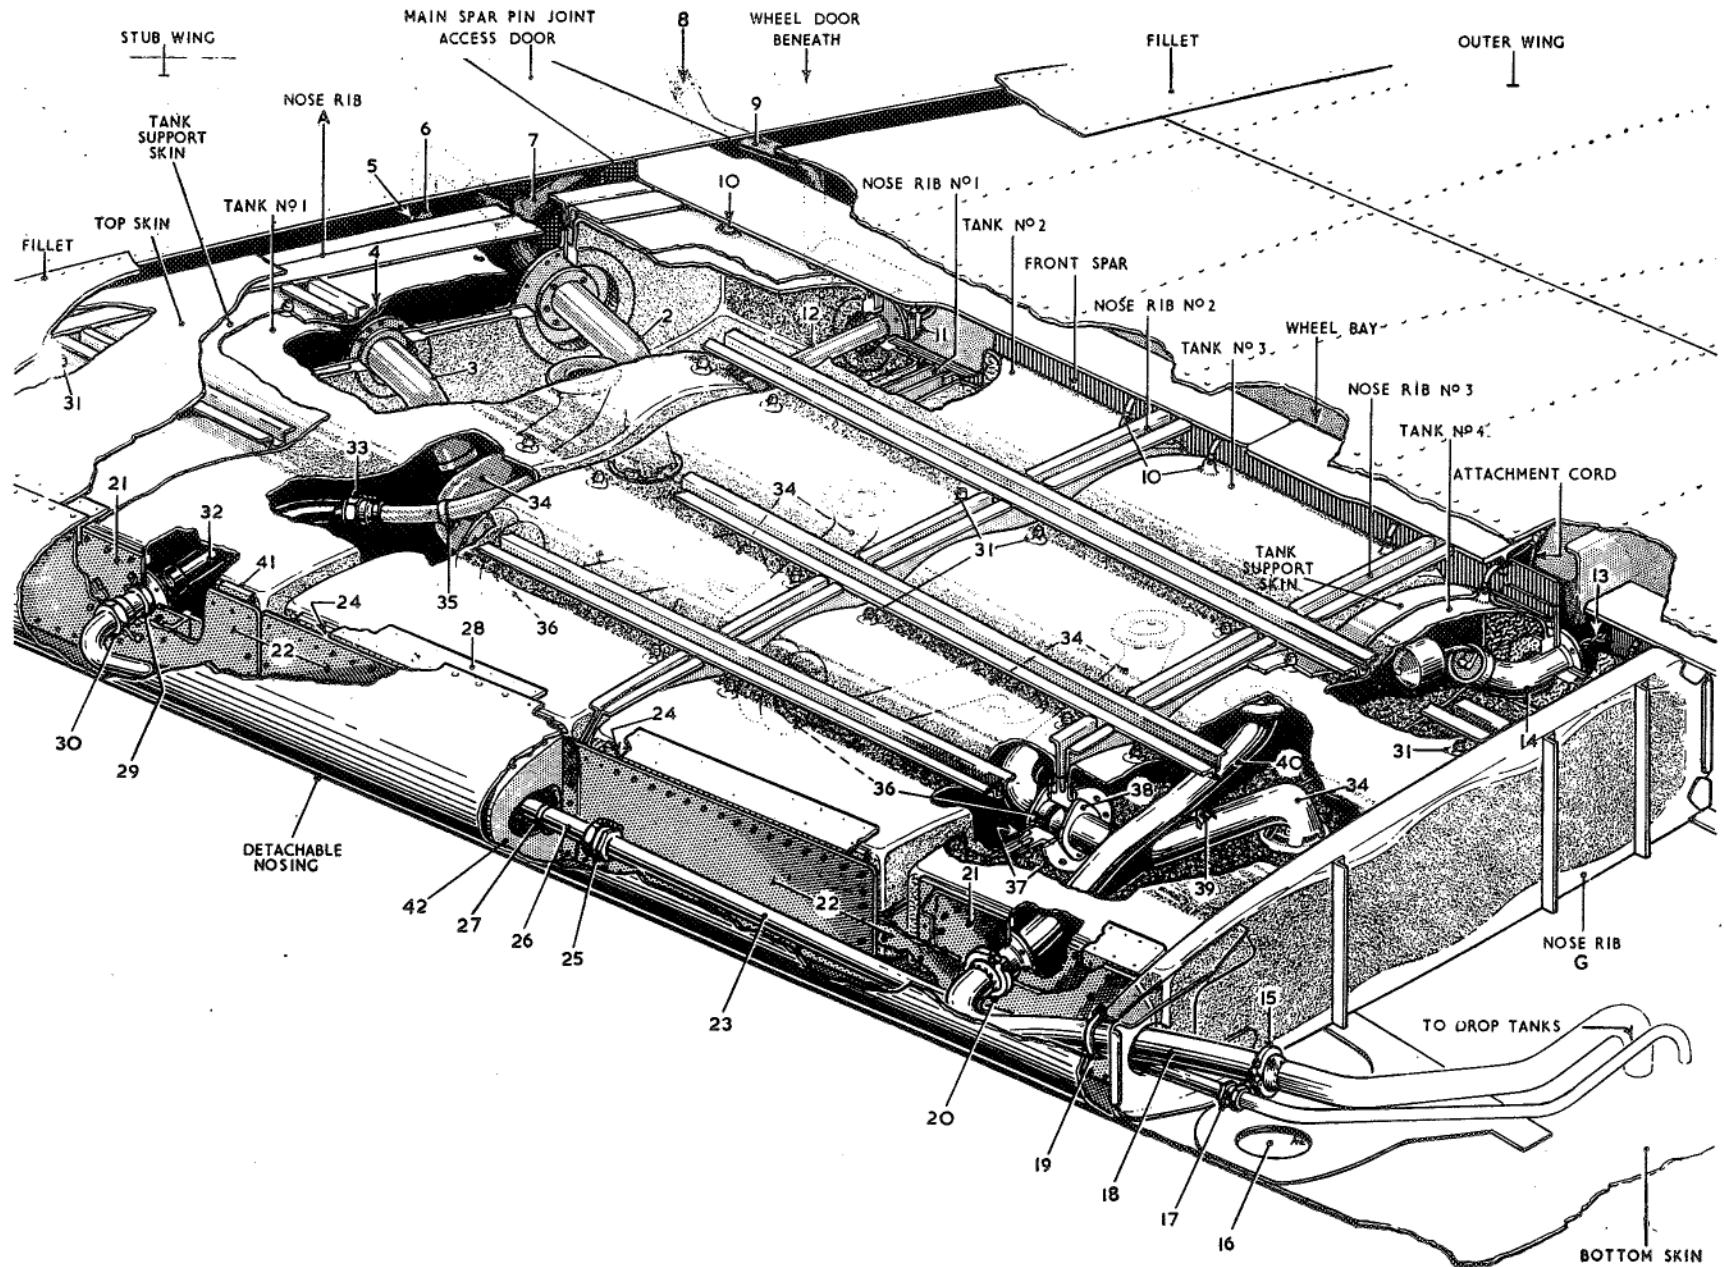

Fig. 15. Removal of wing tanks
**Removal of wing fuel tanks (fig. 15)**
#### **Assembly of wing fuel tanks (fig. 15)**